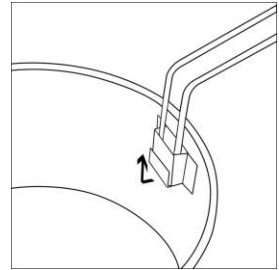

Figure 3
- Once the basket handle is inserted, pull up to secure basket handle to the frying basket (see figure 3).